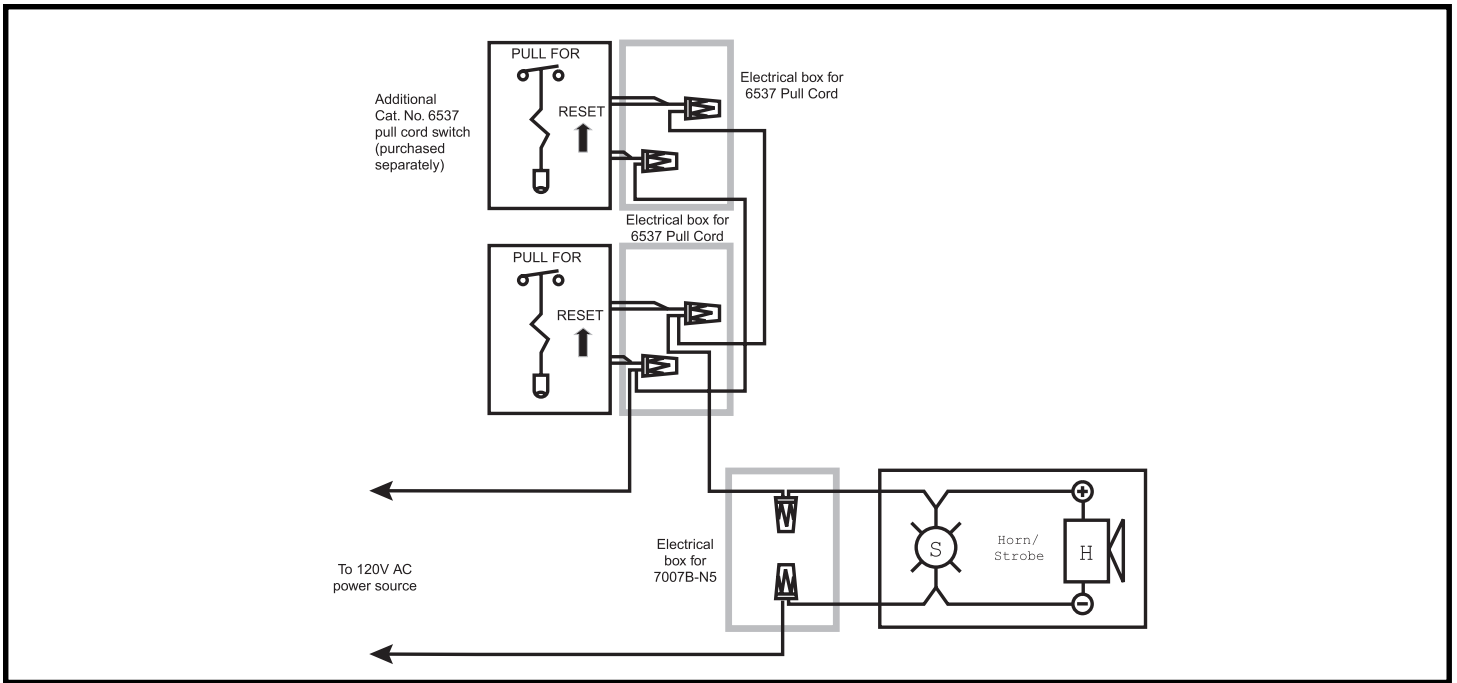

Figure 1. Connecting Catalog No. 7008B-N5 Call for Assistance Package
1. Install Cat. No. 6537 Pull Cord Switch (Figures 1 and 2).
- d. If an additional Catalog No. 6537 pull cord switch is required, install a single gang 2" x 4" (51 mm x 102 mm) electrical box. Extend the black and white wires using 18 AWG wire and connectors (not supplied). Route the extended wires to the previously installed pull cord switch and connect the wire leads (Figure 1).
2. Install Catalog No. 7007B-N5 horn/strobe (Figures 1 and 3).
**To reduce the risk of shock, do not remove lens or tamper with unit when the circuit is energized. Disconnect power and allow five (5) minutes for stored energy to dissipate before starting work or disassembly. High energy could be stored in the strobe circuit once it is energized.**